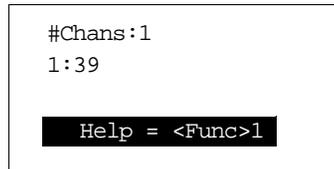

Figure A-5. Channels Entry Screen
1. Type a new value in the #Chans field. The range of values for #Chans is 1 to 6. S1INIT.EXE updates the screen to show the number of channels and the values for each. For example, Figure A-5 displays the minimum number of channels available (1), with a channel value of 39.